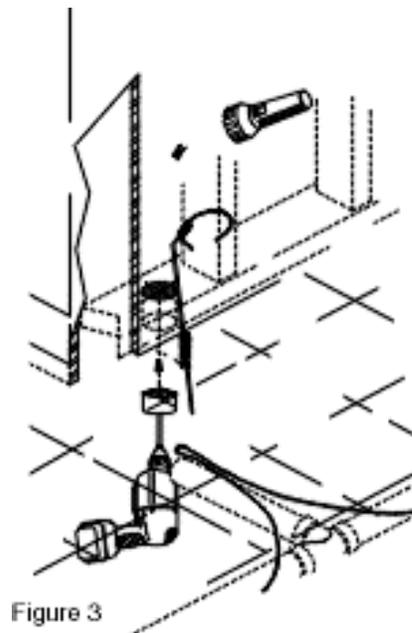

Figure 3
- Hang the canister on the canister hanger rod. (Figure 3)